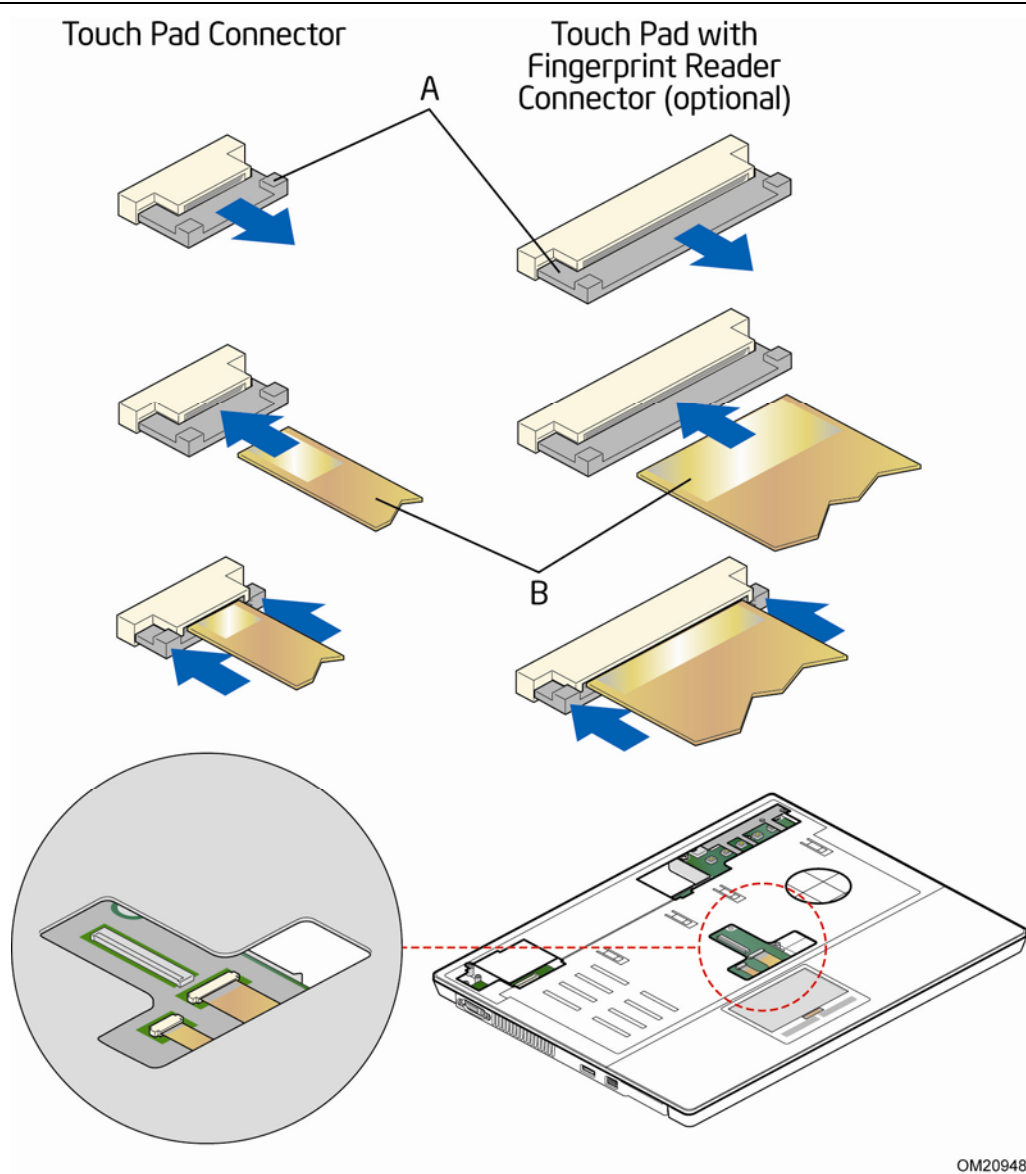

Figure 17. Attaching the Touch Pad and Fingerprint Reader Cables
This section describes how to connect the touch pad and fingerprint reader cables to the Mobile Board after it has been installed in the chassis. To connect the cables, see Figure 17 and follow these steps:
2. Turn the chassis over so that it is oriented (top side up) as shown in Figure 17.
- a. Open the connector locking mechanism (Figure 17, A) by sliding it out as shown in the figure.
- b. Insert the cable into the connector (Figure 17, B).
- c. Push the locking mechanism (Figure 17, A) back in to lock the cable in place.